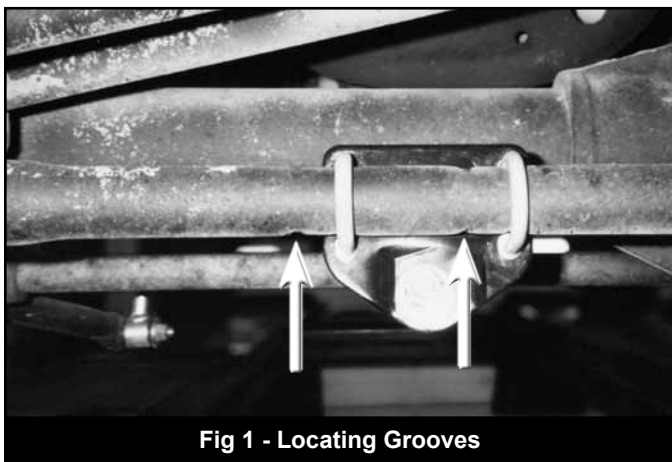

Fig 1 - Locating Grooves
3. The tie rod has two sets of locating grooves in which the OE stabilizer bracket u-bolts mount. Ensure that the bracket is adjusted to the set of grooves closest to the center of the vehicle (Fig 1). Torque the U-bolts to 20 ft-lbs.